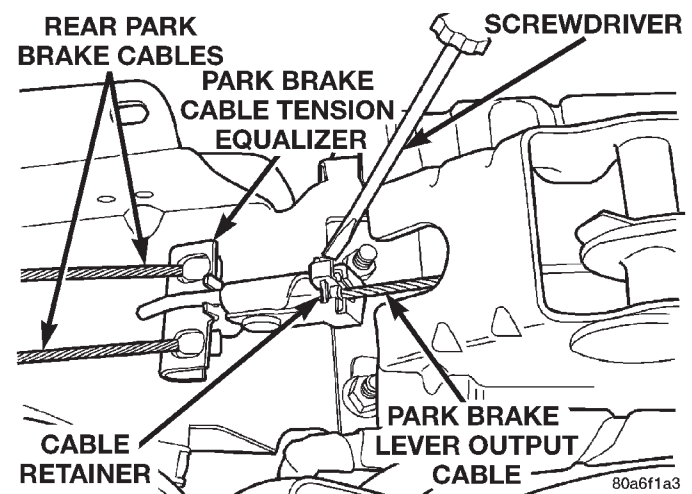

Fig. 163 Output Cable To Equalizer Retaining Clip
(13) Using a screwdriver (Fig. 163) unlatch the park brake output cable retainer. Then remove cable retainer and park brake cable tension equalizer from park brake lever output cable **and discard components**.